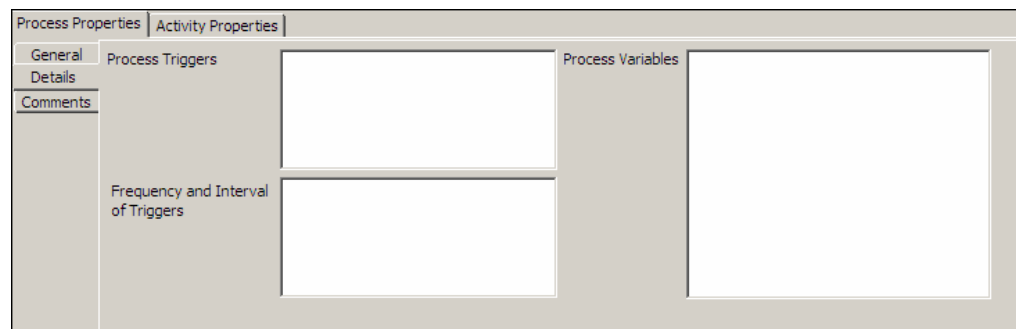

Figure 7.15: Details Properties
3. Click **Details** tab to display all detailed properties for the process model (see Figure 7.15).